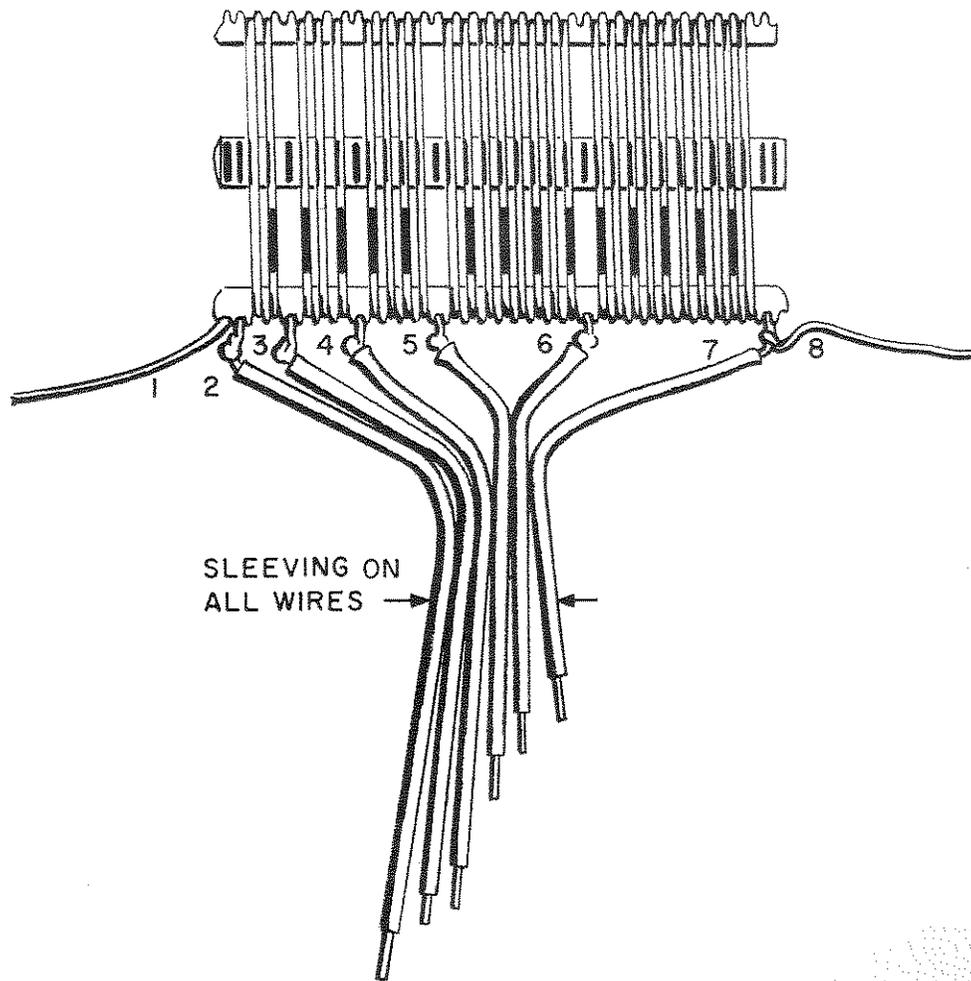

Figure 19. Dressing Leads of Output Tank Coil L10.
- (✓) Dress the leads of L10 with the yellow sleeving as shown in Figure 19.